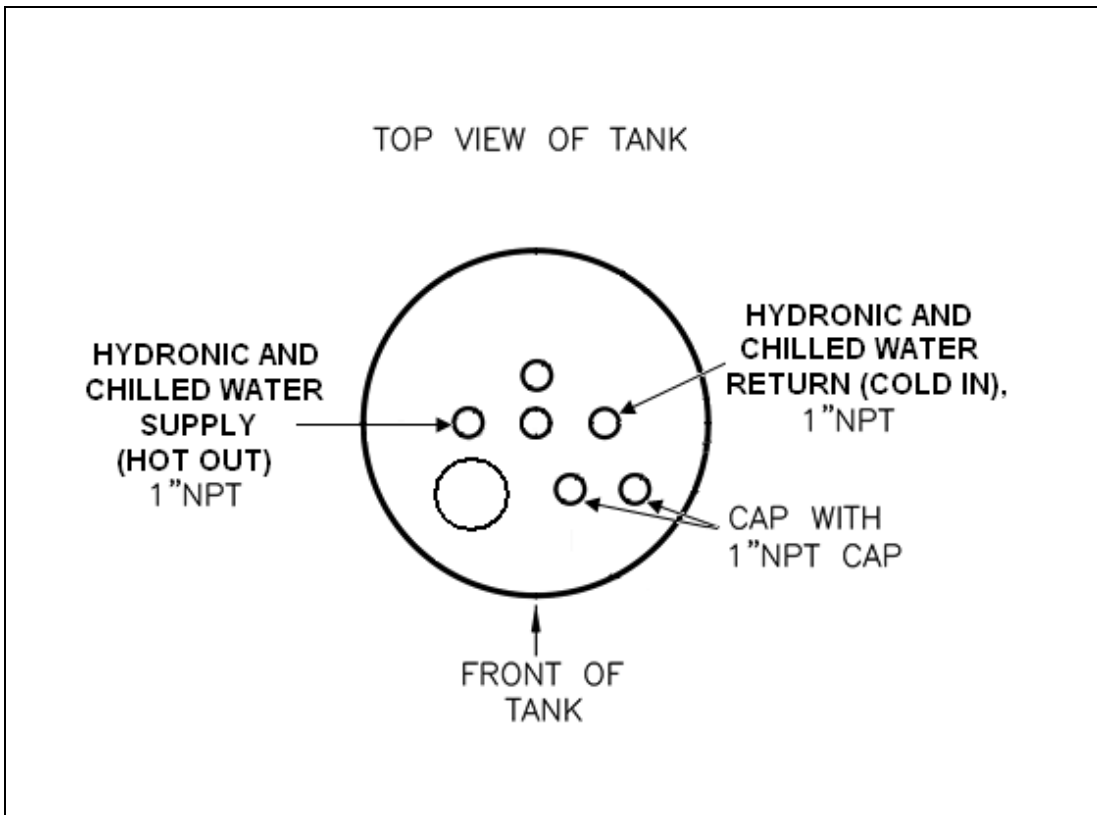

Figure 5e. Top of Tank Connections – Hydronic Heating and Chilled Water Cooling (HWM)
- Figure 5e. Top of Tank Connections – Hydronic Heating and Chilled Water Cooling (HWM) 19
Detail for the ports and connections on top of the tank are illustrated in Figure 5e.